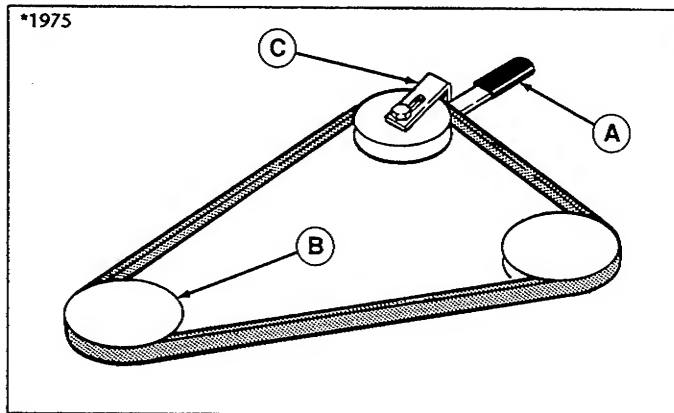

Figure 28.
2. If mower is not removed, pull idler pulley arm (A, figure 28) towards you to relieve belt tension. Drop belt from electric clutch pulley (B).
3. Loosen nut, lockwasher and flat washer securing bracket belt stop (C).
7. Index the bracket belt stop (C, figure 28) up against idler pulley arm (A) as shown in figure 29. Make sure there is a 1/8" gap between belt stop and pulley.